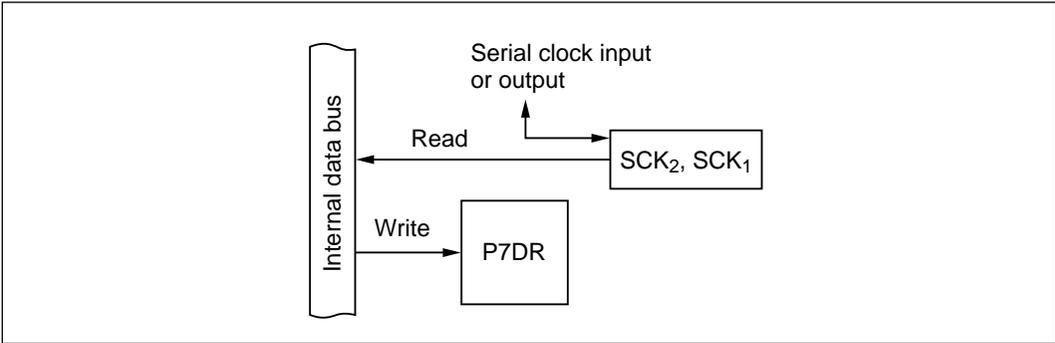

Figure 10-51 SCK₂ and SCK₁ Pins (Modes 1 to 7)
(7) **SCK₂ and SCK₁ Pins (P7₇ and P7₆: Modes 1 to 7)**: Figure 10-51 shows a block diagram illustrating the SCK₂ and SCK₁ input/output function. Table 10-42 indicates register read/write data. When P7₇ and P7₆ are used for SCK₂ and SCK₁ input or output, the value written in P7DR is ignored, but P7DR can be read to monitor the levels at the SCK₂ and SCK₁ pins.